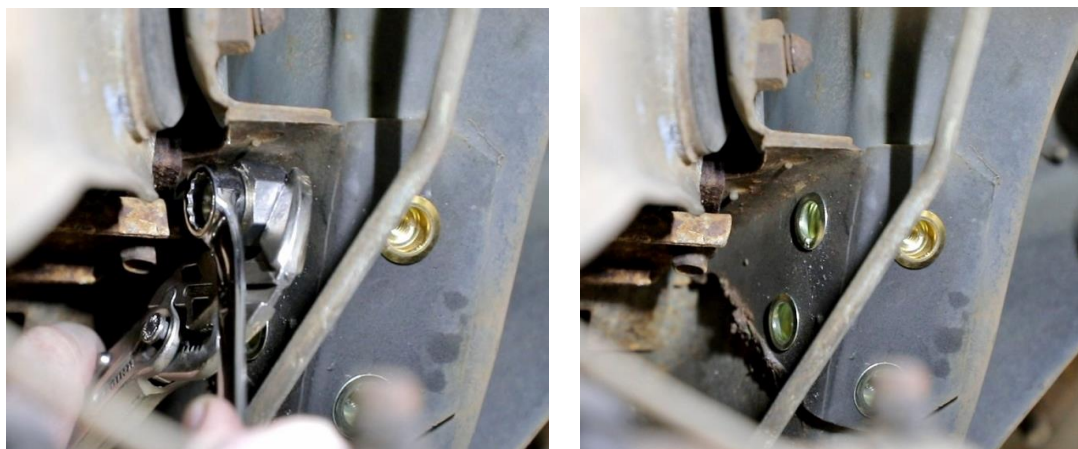

Figure 21 - Install Nut Inserts
24. Next, install two more nut inserts into the holes drilled on the inside frame rail using the nut insert tool (Figure 21).